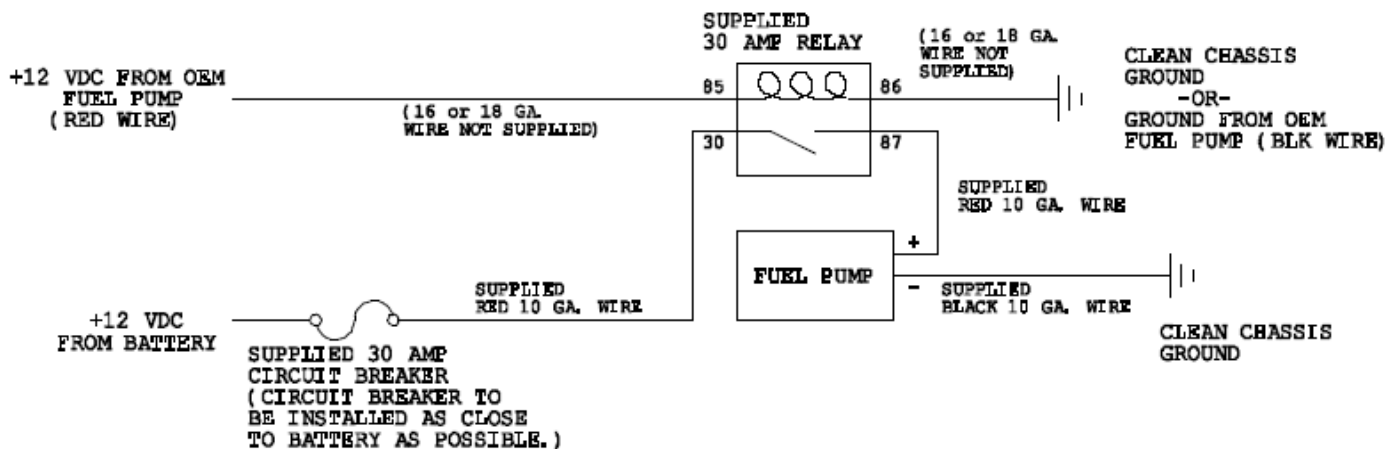

Figure 5-1
- 5-2. Attach the OEM fuel pump wires (These typically are the red and black wires from the OEM wiring harness going to the fuel tank) to relay terminals 85 and 86 using two of the supplied blue female blade connectors (See Figure 5-1 Below).
- 5-8. Ensure that electrical components and wires are connected properly (See Figure 5-1) and are clear of any moving suspension or drivetrain components and any exhaust components! Protect wires from abrasion and road obstructions or debris.